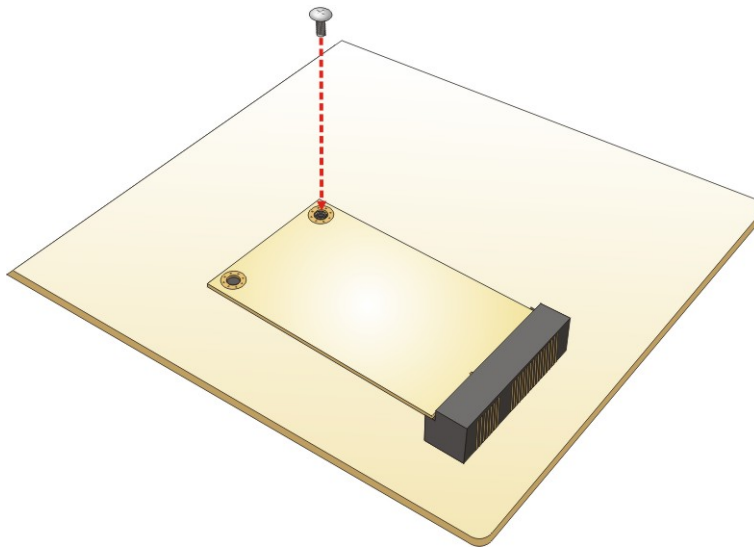

Figure 4-4: Secure the PCIe Mini Card
Step 4: **Secure the PCIe Mini card.** Secure the PCIe Mini card with the retention screw previously removed (**Figure 4-4**).